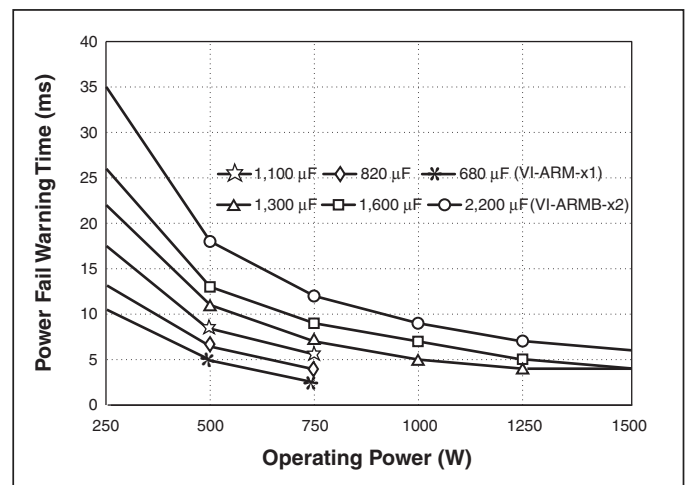

Figure 15 — Power fail warning time vs. operating power and total bus capacitance, series combination of  $C1$ ,  $C2$  (Fig. 10)
Calculated values of bus capacitance for various hold-up time, ride-through time, and ripple voltage requirements are given as a function of operating power level in Figures 15, 16, and 17, respectively.
**Warning.** Fig. 15 is used to determine hold-up capacitance for a given power fail warning time and power level, and shows that the total bus capacitance must be at least 820 μF. Since two capacitors are used in series, each capacitor must be at least 1,640 μF.